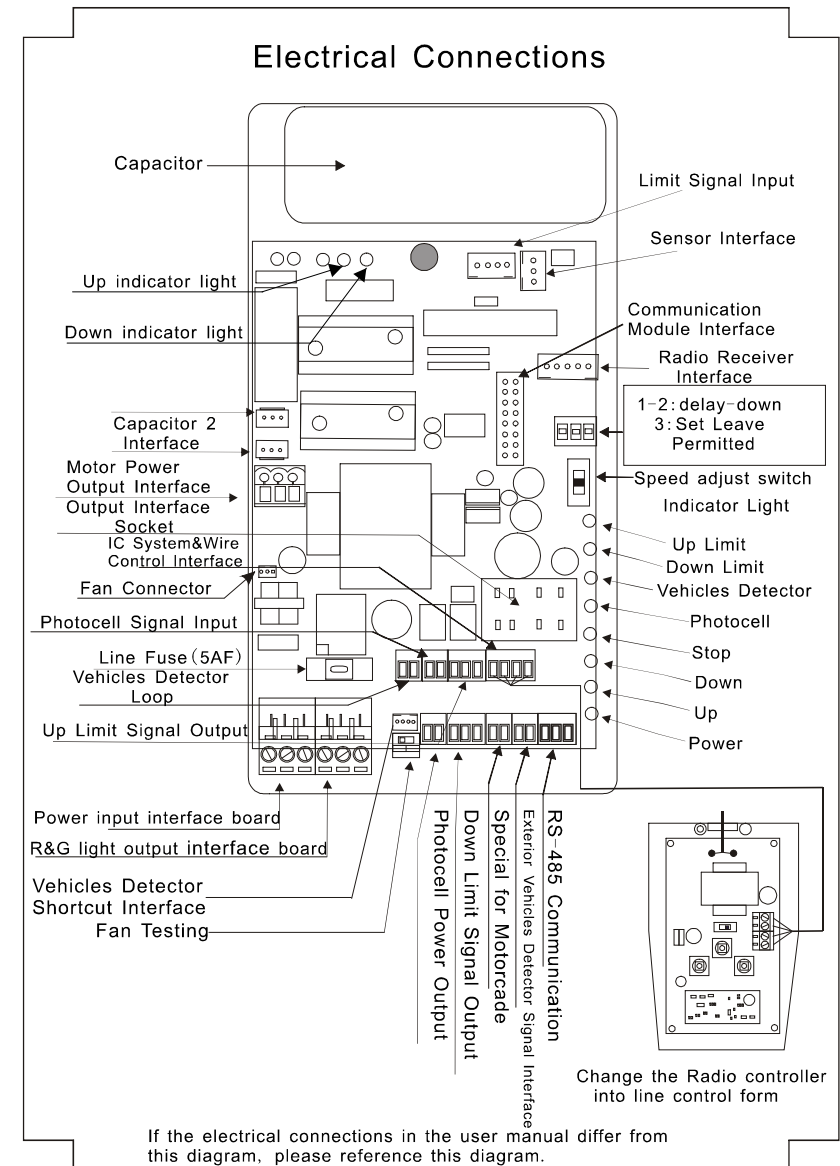

Fig. 12
7. 4) Installation and connections of the electric part (refer to Fig. 12)
This switch transmits the "UP" and "DOWN" command to boom by optical signal. (Notice: More details please refer to Fig. 12)